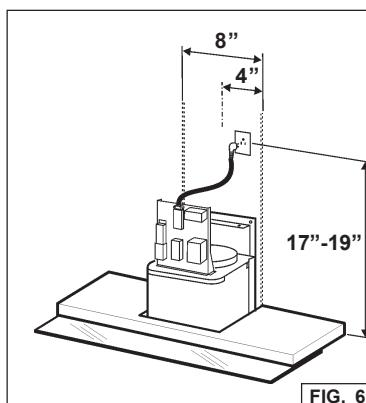

FIG. 6
2. Run 2-wire plus ground power cable to a standard 2" x 4" wall outlet box and 3-blade, 125 volt, 15 Amp grounded receptacle. Fig. 6.